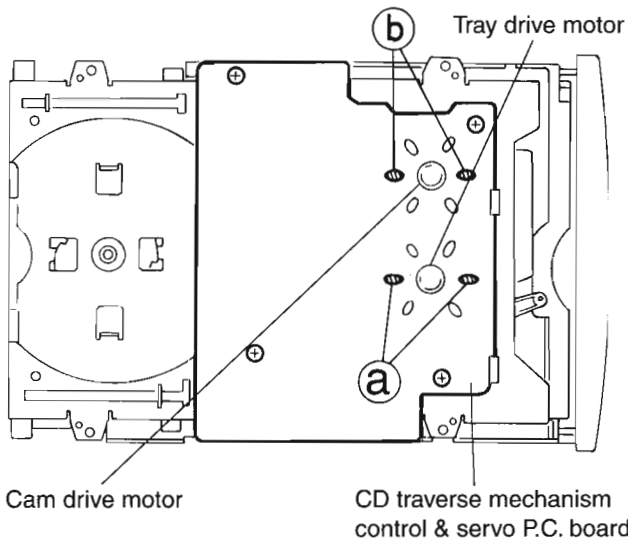

Fig. 13
4. After removing the two soldered points (a) on the surface of the CD traverse mechanism control & servo P.C. board, remove the tray drive motor (see Fig. 13).
5. After removing the two soldered points (b) on the surface of the CD traverse mechanism control & servo P.C. board, remove the cam drive motor (see Fig. 13).